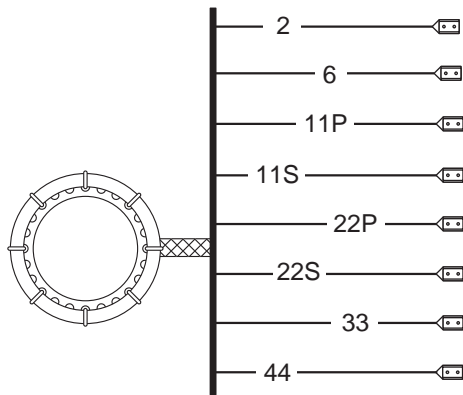

Figure 3. Stator Assembly Leads
The stator can houses and retains (a) dual AC power windings, and (b) excitation winding. A total of six (6) or eight (8) stator leads are brought out of the stator can as shown in Figure 3.